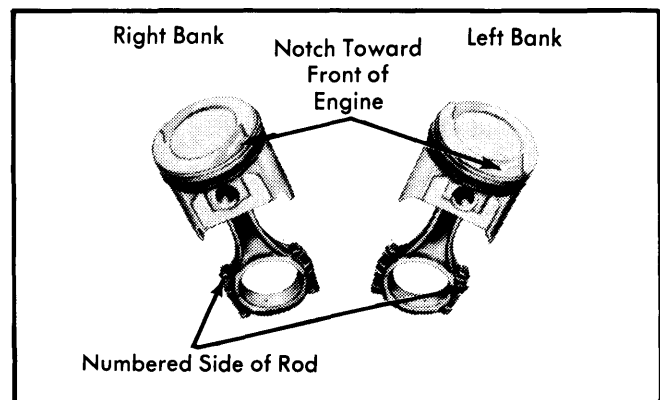
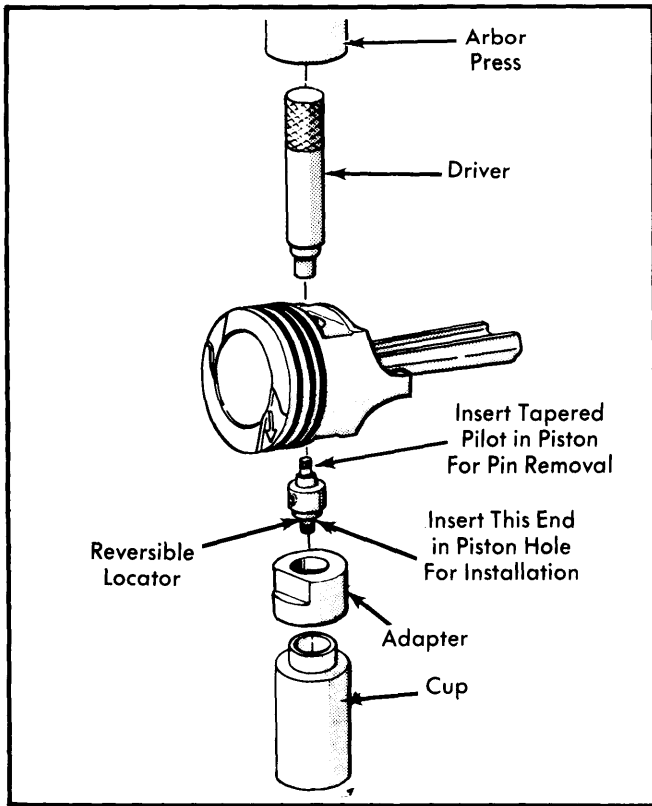

Fig. 9 Fitting Piston and Connecting Rod Assembly
Fig. 10 Correct Tools for Removing and Installing Piston Pins
Removal — Using an arbor press and removal/installation tool T68P-6135 and adapters, press piston pin out of connecting rod and piston. See Fig. 10.
2) Position piston on connecting rod as shown. See Fig. 9. Use arbor press to press piston pin into connecting rod and piston. See Fig. 10.